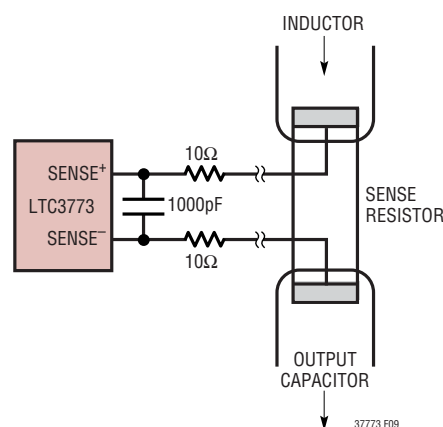

Figure 9. Kelvin Sensing  $R_{SENSE}$
- Are the SENSE- and SENSE+ printed circuit traces for each channel routed together with minimum PC trace spacing? The filter capacitors between SENSE+ and SENSE- for each channel should be as close as possible to the pins of the IC. Connect the SENSE- and SENSE+ pins to the pads of the sense resistor as illustrated in Figure 9.